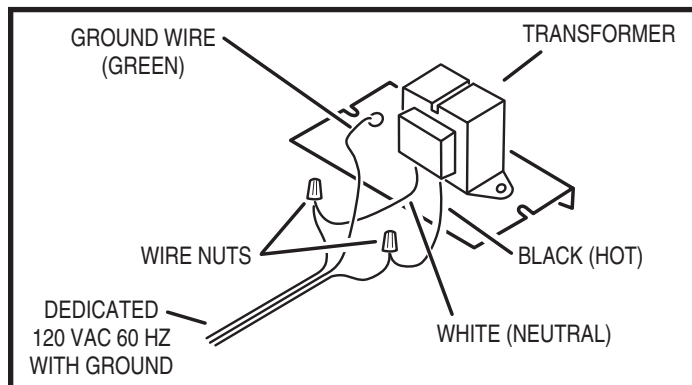

Figure 5. Transformer Power Wiring
3. If installing the second transformer for the DMCBT Bluetooth Player option, cut a 1-1/2 foot length of power cable to loop between the two transformers. Insert an end of the cable into each of the transformer enclosures through the bottom knockout holes. Use wire nuts to connect the cable to the TE2D transformer BLACK (HOT) and WHITE (NEUTRAL) input wires. Connect the GREEN (GROUND) wire to the cable's ground conductor (see Figure 5).
4. Route the incoming power cable into the TE5D transformer enclosure through the bottom knockout hole. Use wire nuts to connect the incoming power cable to the TE5D transformer BLACK (HOT) and WHITE (NEUTRAL) input wires (and to the cable going to the TE2D transformer if installed). Connect the GREEN (GROUND) wire to the cable(s) ground conductor (see Figure 5).